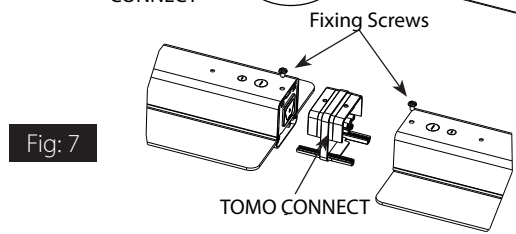

Fig: 7
1. For continuous run, remove fixture **End Caps** (Fig. 6). Pop out **Silicone Plugs**, push Fixtures together using **TOMO CONNECT** (ordered separately) between fixtures for quick connect installation (Fig. 7). **TOMO CONNECT** is provided with (2) **Fixing Screws**. Install **Fixing Screws** in **Silicone Plug** points. Only (1) one **Fixture** needs to be electrically hard wired from above (Fig. 8).